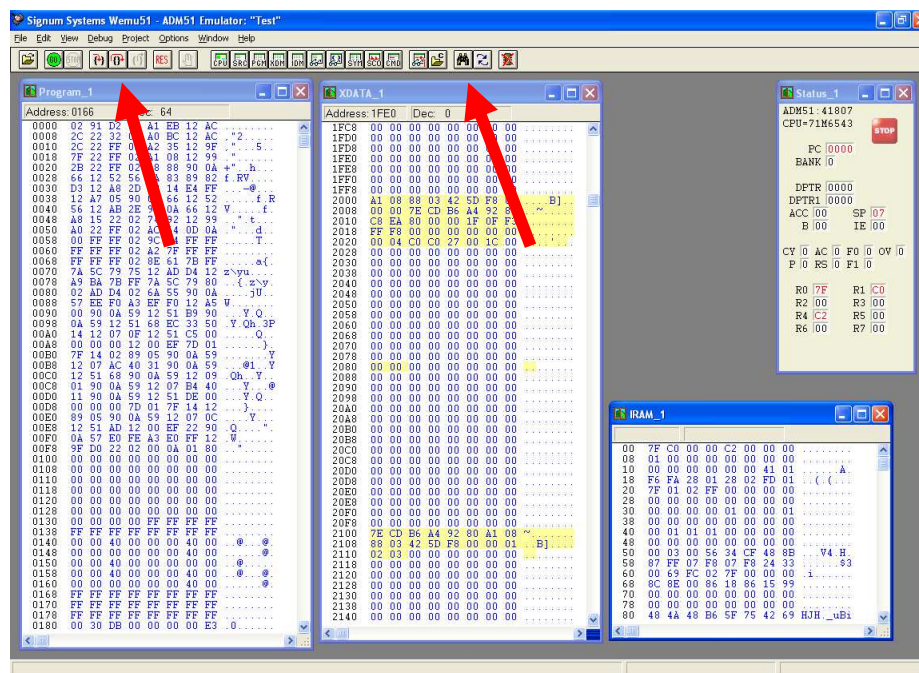
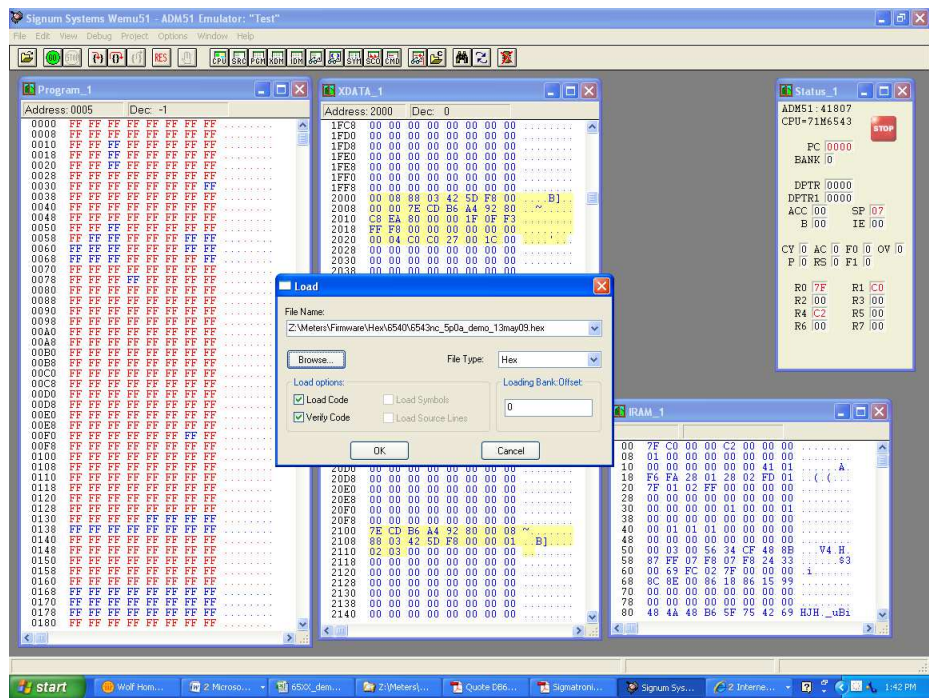

Figure 1-5: Emulator Window Showing Reset and Erase Buttons (see Arrows)
Figure 1-6: Emulator Window Showing Erased Flash Memory and File Load Menu
**In-Circuit Emulator:** If firmware exists in the 71M6543F flash memory; it has to be erased before loading a new file into memory. Figure 1-5 and Figure 1-6 show the emulator software active. In order to erase the flash memory, the RESET button of the emulator software has to be clicked followed by the ERASE button.
Once the flash memory is erased, the new file can be loaded using the commands File followed by Load. The dialog box shown in Figure 1-6 will then appear making it possible to select the file to be loaded by clicking the Browse button. Once the file is selected, pressing the OK button will load the file into the flash memory of the 71M6543F IC. At this point, the emulator probe (cable) can be removed. Once the 71M6543F IC is reset using the reset button on the Demo Board, the new code starts executing.